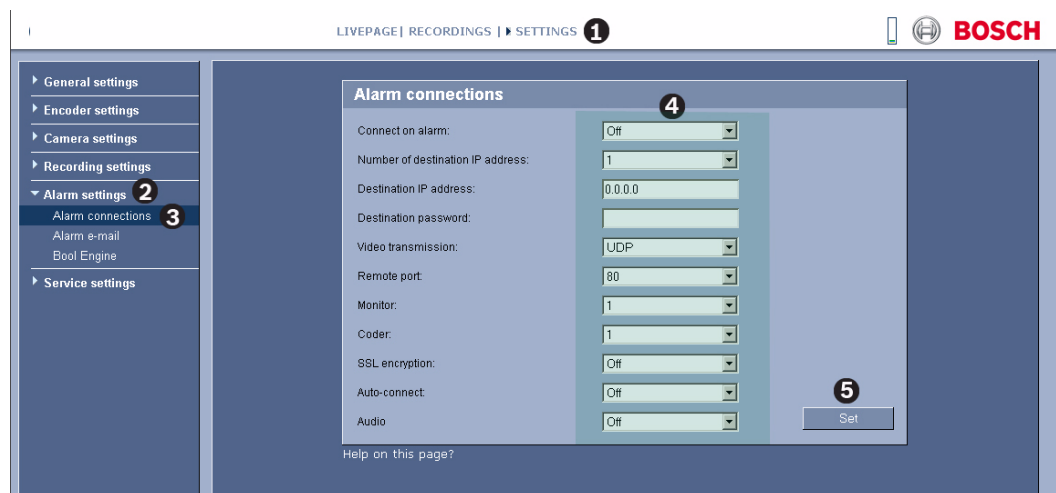

Figure 8.16 Alarm Connections
2. Click the Alarm Settings link, then click Alarm Connections. The IP AutoDome displays the Alarm Connections screen (see *Figure 8.16*).